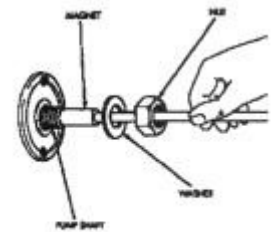

Figure 11
13. Manually rotate the engine backwards (CCLK) until the pump plunger is at its lowest point. Place a pencil magnet on the end of the shaft (fig. 11) and remove the shaft nut and washer and pull the gear with gear puller or steering wheel puller (see figure 12 for gear pulling and figure 13 for using barring tool to keep engine from rotating). Reasoning is to not